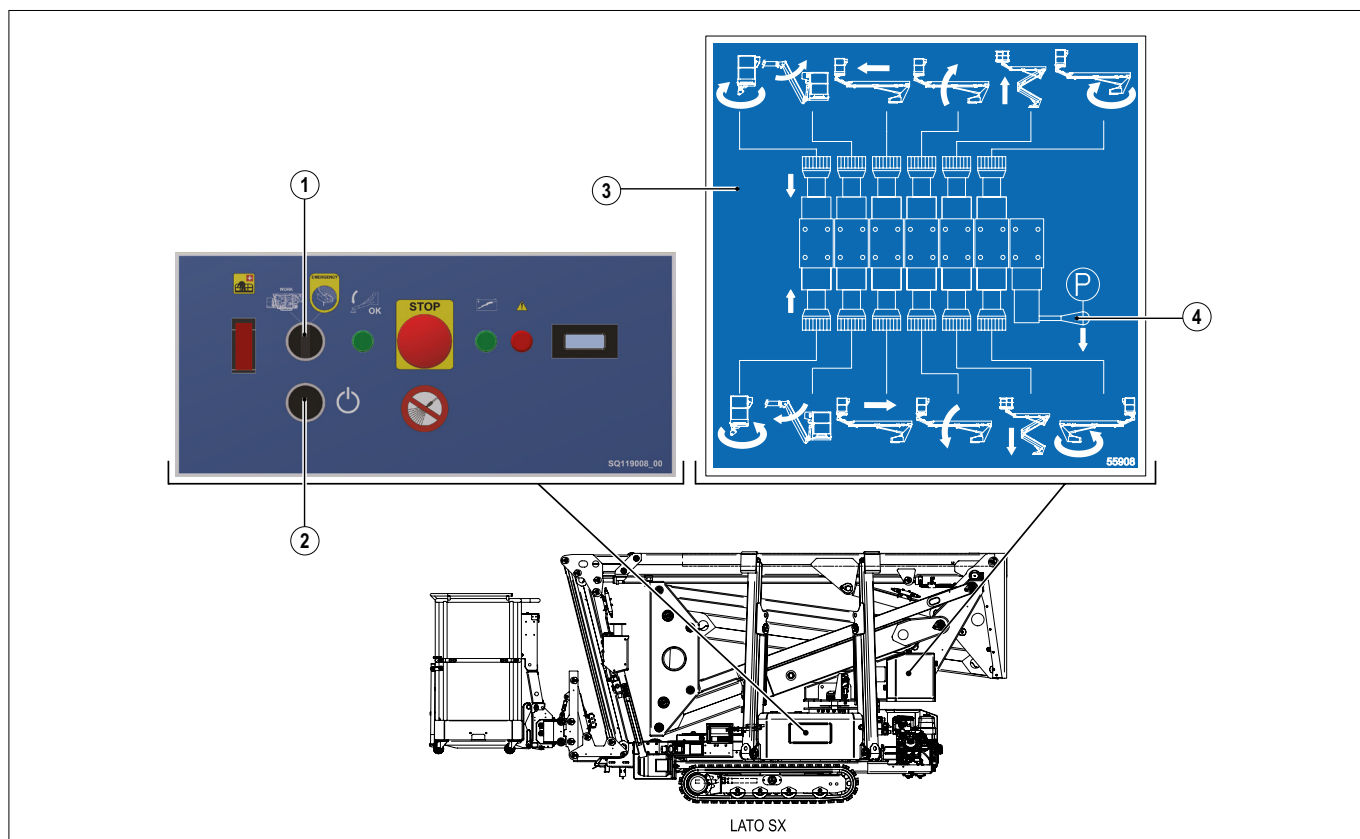

FIG. 37 (Lowering the work platform to the ground)
- 2) Turn the selector switch (FIG. 37 - Ref. 1) clockwise until it is in the "Emergency controls" position.
- 3) If the engine is switched off, pressing the button (FIG. 37 - Ref. 2) will turn it on.
- 8) Turn the selector switch anticlockwise to the "Platform Controls" position (FIG. 37 - Ref. 1).